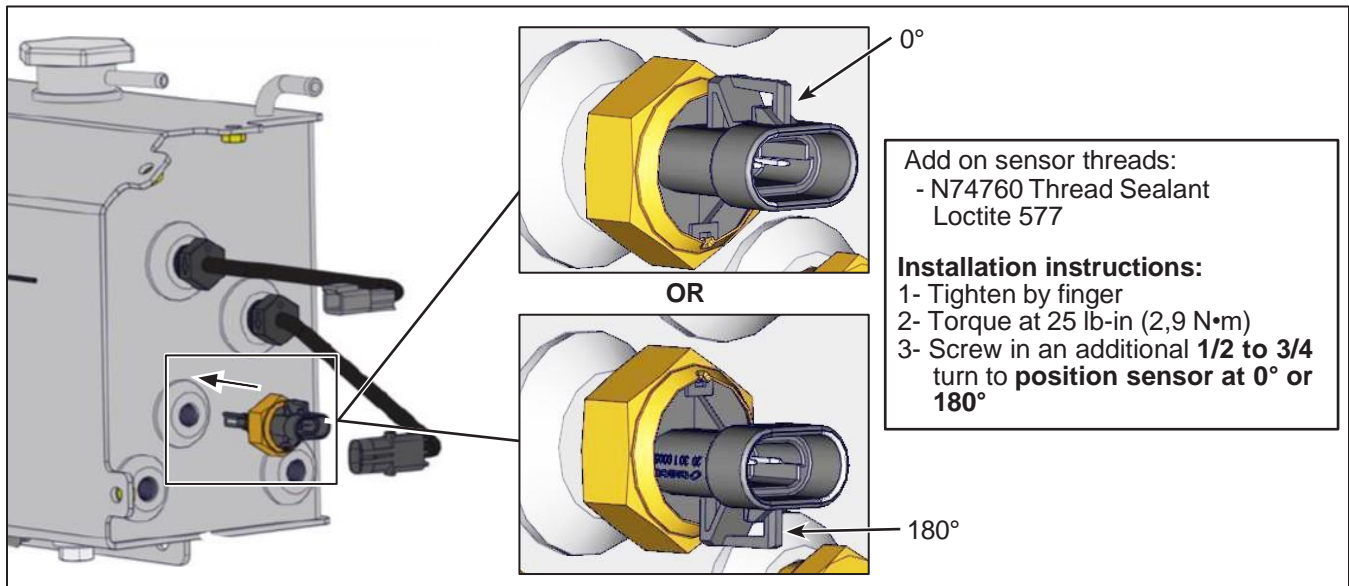

Figure 4 - Coolant Critical Level Sensor Installation
- 2.3. Install the new N108036 Coolant Level Sensor as per instructions in Figure 4. Use N74760 Thread Sealant Loctite 577 or equivalent on threads.